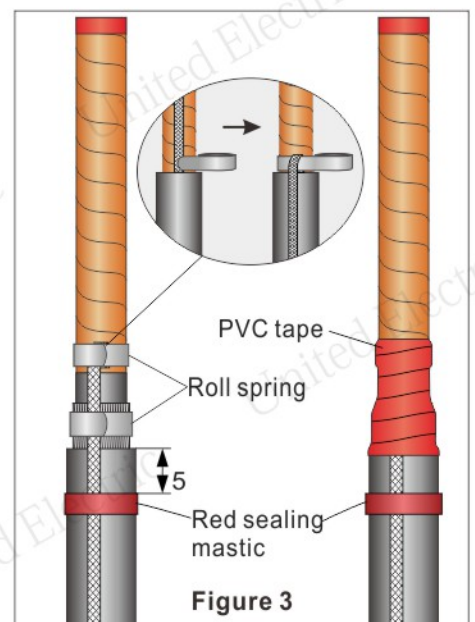

Figure 3
- Lay down the copper braid and keep wrapping one layer of red sealing mastic as shown in figure 3. Cover the red sealing mastic by PVC tape.